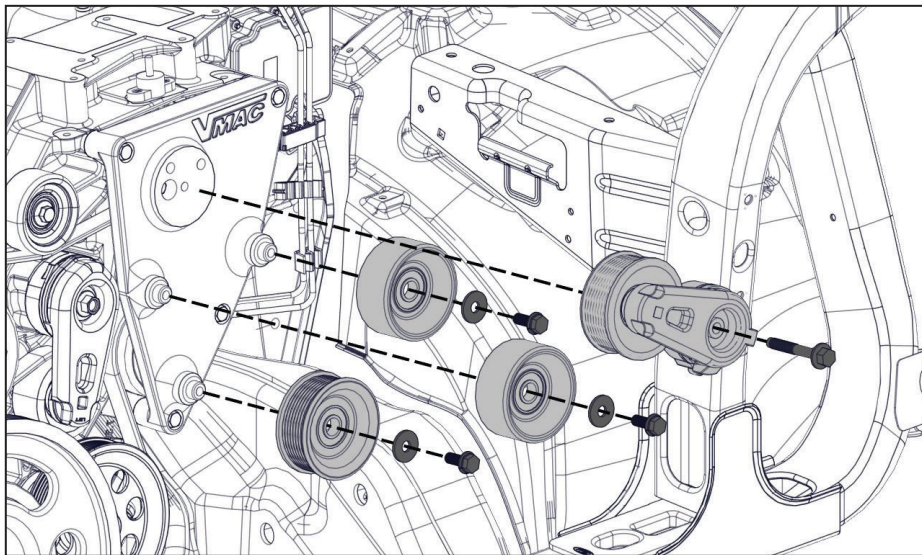

Figure 42 — Install VMAC idler bracket
- ☐ Install the idlers and tensioner onto the VMAC FEAD bracket (Figure 42).